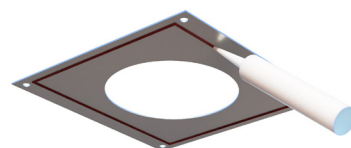

Figure 9
3. Apply a bead of Intumescent sealant to the underside of the Outer Surface Plate (E) Figure 9.